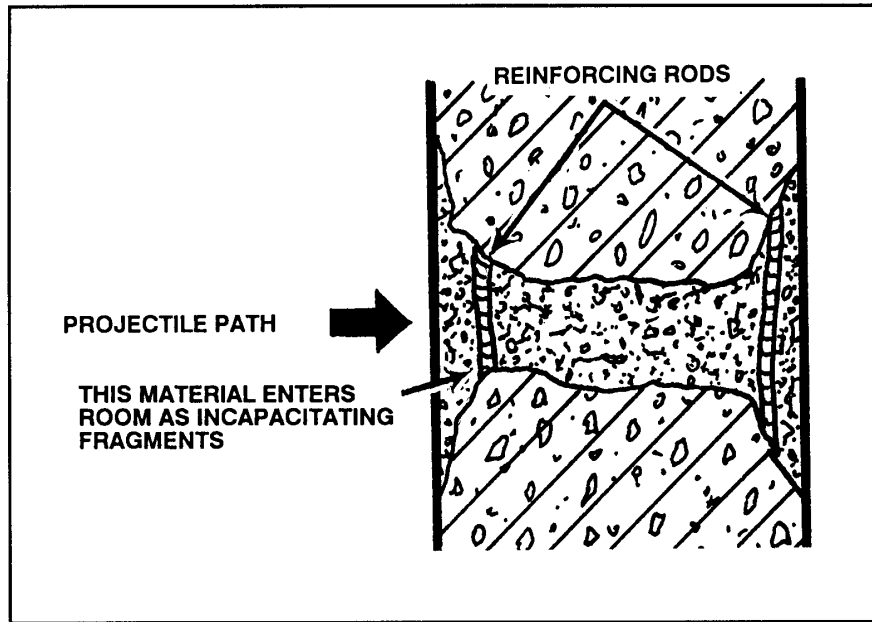

Figure 7-17. Tank HEAT round effects on reinforced concrete walls.
(2) HEAT type rounds arm within 15 to 30 meters from the gun muzzle. On a 16-meter-wide street, HEAT type ammunition does not arm quickly enough to engage a structure directly perpendicular to the direction of travel. HEAT type rounds fired at structures less than 30 meters from the muzzle will provide some of the desired effects, particularly if the desired effect is casualties inside the building. However, the effectiveness of unarmed HEAT type rounds will be unpredictable and highly variable. These arming distances allow the tank to engage targets from short ranges. The armor of the tank protects the crew from both the blowback effects of the round and enemy return fire. The APFSDS round does not need to arm and, therefore, can be fired at almost any range. The discarding portions of tank rounds can be lethal to exposed infantry forward and to the side of the tank. Additionally, HEAT rounds have an infrequent early burst occurrence. Therefore, exposed infantry should not be forward of a firing tank (60-degree frontal arc).
d. **Target Effects.** High-explosive, antitank rounds are most effective against masonry walls. The APFSDS round can penetrate deeply into a structure but does not create as large a hole or displace as much spall behind the target. In contrast to lighter HEAT rounds, tank HEAT rounds are large enough to displace enough spall to inflict casualties inside a building. One HEAT round normally creates a breach hole in all but the thickest masonry construction—a single round demolishes brick veneer and wood frame construction. Even the 120-mm HEAT round cannot cut all the reinforcing rods, which are usually left in place, often hindering entry through the breach hole (Figure 7-17, page 7-34). The 105-mm HEP round cuts the reinforcing rods and leaves a 20-inch hole.